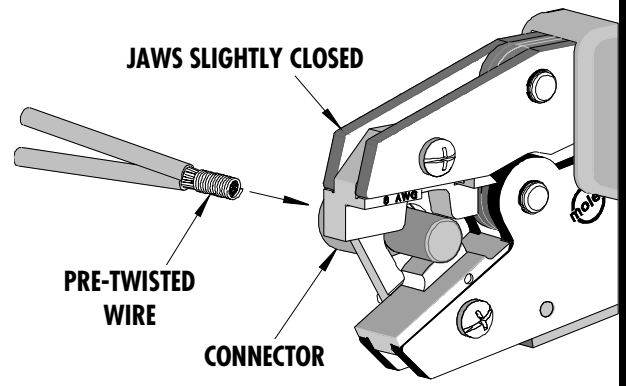

Figure 2
2. Close the hand tool jaws until the connector is held snug in place. Load the connector with the desired wire combination (See Figure 2 and 3). Complete the crimp by closing the hand tool handles until they release.